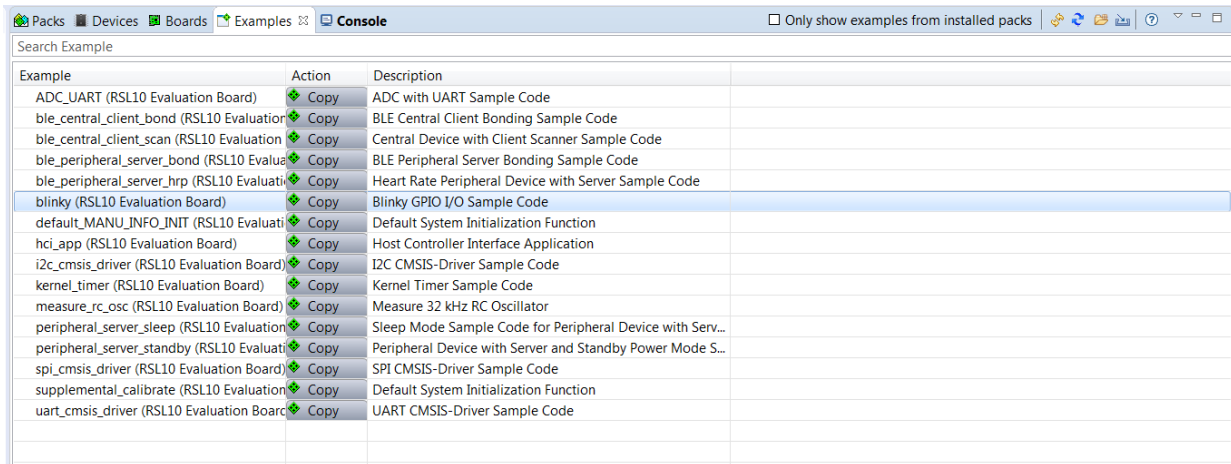

Figure 31. IAR Embedded Workbench CMSIS Manager: Examples Tab
2. Choose the example project called *blinky*, and click the **Copy** button to import it into your workspace (see Figure 31 on page 28). Choose a destination folder for a copy of the sample code.